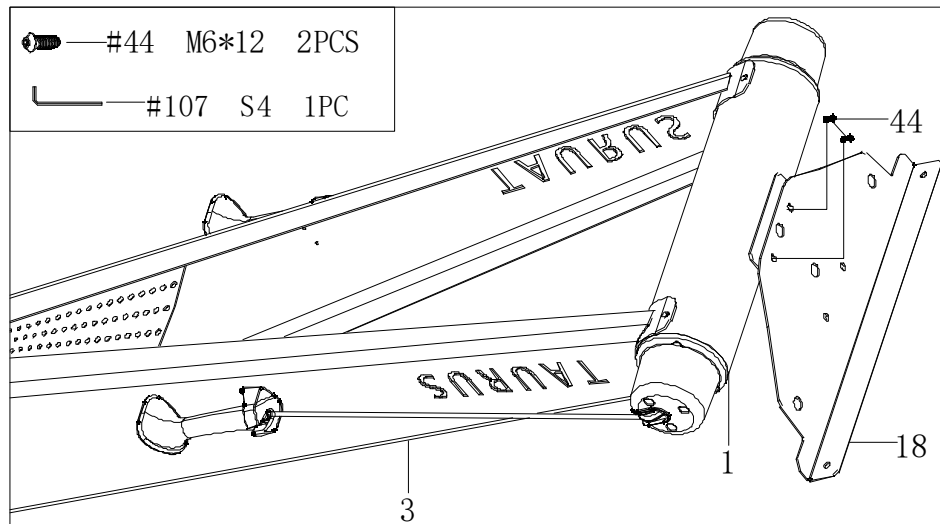

Fig. 17
1. Fix the strengthening plate (18) to the round straight pipe (1) with two bolts (44) (Fig. 17).